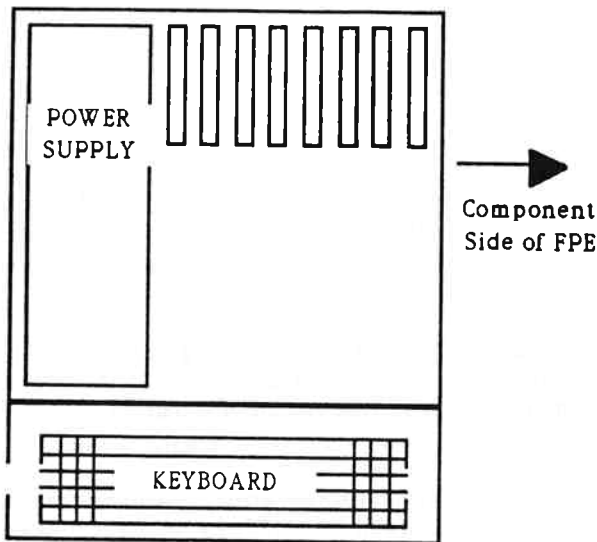

FIGURE 2-1 FPE Installation
3. Face the computer as you normally would if using it (keyboard toward you. Refer to Figure 2-1.).